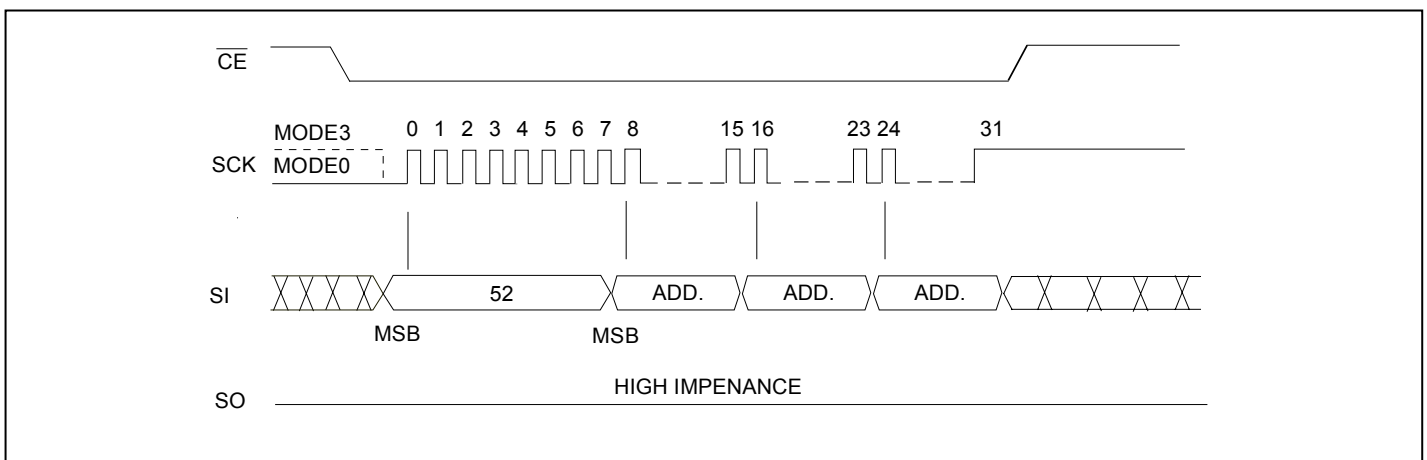

Figure 10: 32K-byte Block Erase Sequence
-A₀]. Address bits [A_{MS}-A₁₅] (A_{MS} = Most Significant address) are used to determine the block address (BA_x), remaining address bits can be V_{IL} or V_{IH}. \overline{CE} must be driven high before the instruction is executed. The user may poll the BUSY bit in the Software Status Register or wait T_{BE} for the completion of the internal self-timed Block Erase cycle. See Figure 10 for 32K Byte Block Erase sequence.